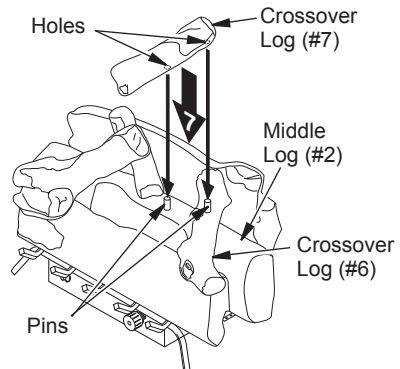

Figure 26 - Installing Crossover Log #7 (Model CCL3930PTB/NTB Only)
7. For **CCL3930PTB/NTB** only: Locate holes on the bottom of crossover log (#7). Slide onto the pins located in crossover log (#6) and middle log (#2). See Figure 26.